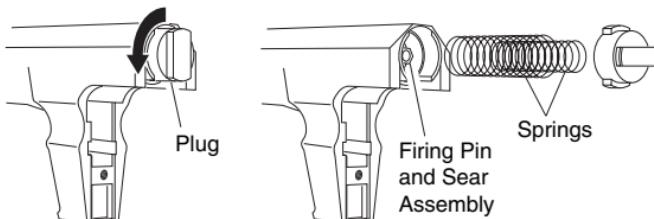

**Figure 6 - Removing Rocker Arm**
- Push out rocker arm pin (see Figure 6).